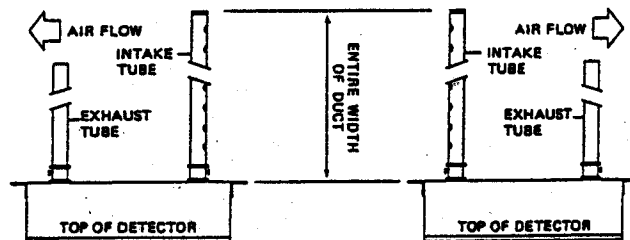

FIG. 2 SAMPLING TUBE ORIENTATION
1. The RW detectors are designed for use in ducts where the air velocities are from 500 to 4000 feet per minute. Verify this by checking specifications of installation and if necessary, use an Anlor Model 6,000P velocity meter (or equivalent) to check the air velocity. See Figure 2 for sampling tube orientation to air flow direction.
C. SAMPLING TUBE ASSEMBLY (See Figure 2)
The sampling tubes may be ordered to desired length or ordered in one of 3 standard lengths and cut per requirements. The intake sampling tube is a piece of steel piping with a series of holes drilled the entire length of the tube and should extend the entire width of the duct. The holes must be facing into the air flow (see Figure 2). The exhaust tube is a piece of steel piping approximately 7-1/2" long.
D. MOUNT SAMPLING TUBES (See Figure 2)
1. Sampling tube connectors are equipped with set screws which allow the tubes to be mounted only in directions shown in Figure 2.